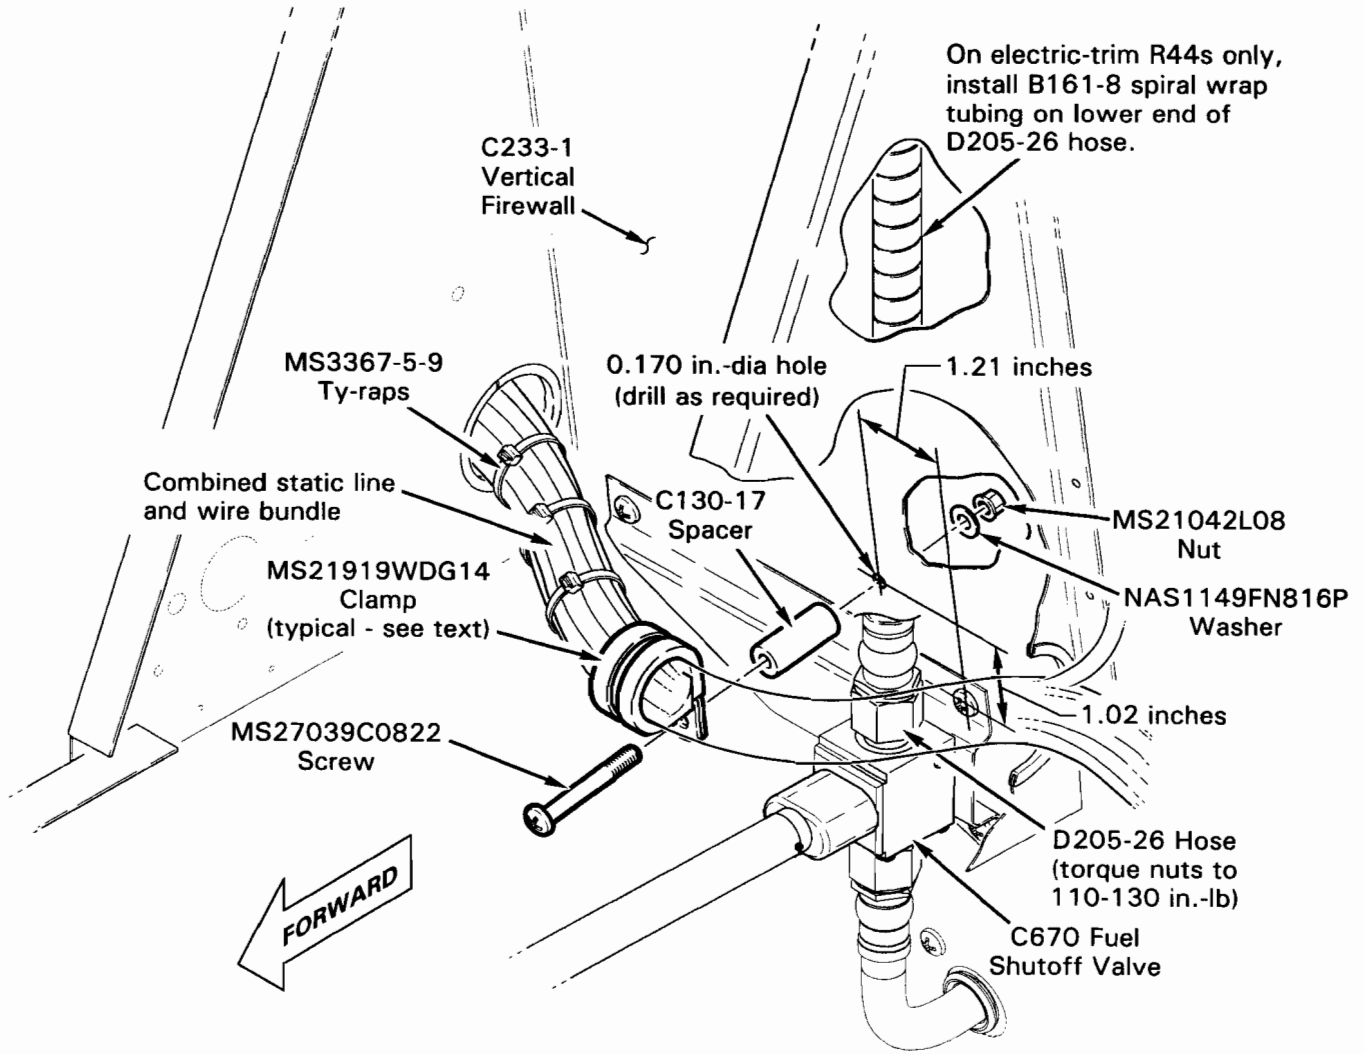

FIGURE 3
7. Refer to Figure 3. Between aft seats, remove two MS21919WDG clamps (if installed) and hardware securing static line and horizontal wire bundle to vertical firewall. Discard clamps and screw. If required, lay out hole location on C233-1 vertical firewall and drill 0.170-inch diameter hole; deburr hole and clean up debris.
8. Refer to Figure 3. Move static line to wire bundle, install MS21919WDG-8 thru -16 clamp (as required to eliminate play within harness, included -14 clamp is typical) with noted hardware. Install MS3367-5-9 ty-raps on static line and wire bundle as required
- (b) Electric-trim R44s only: Refer to Figure 3. Install supplied B161-8 spiral wrap tubing on lower end of D205-26 hose assembly to prevent chafing by collective trim spring.